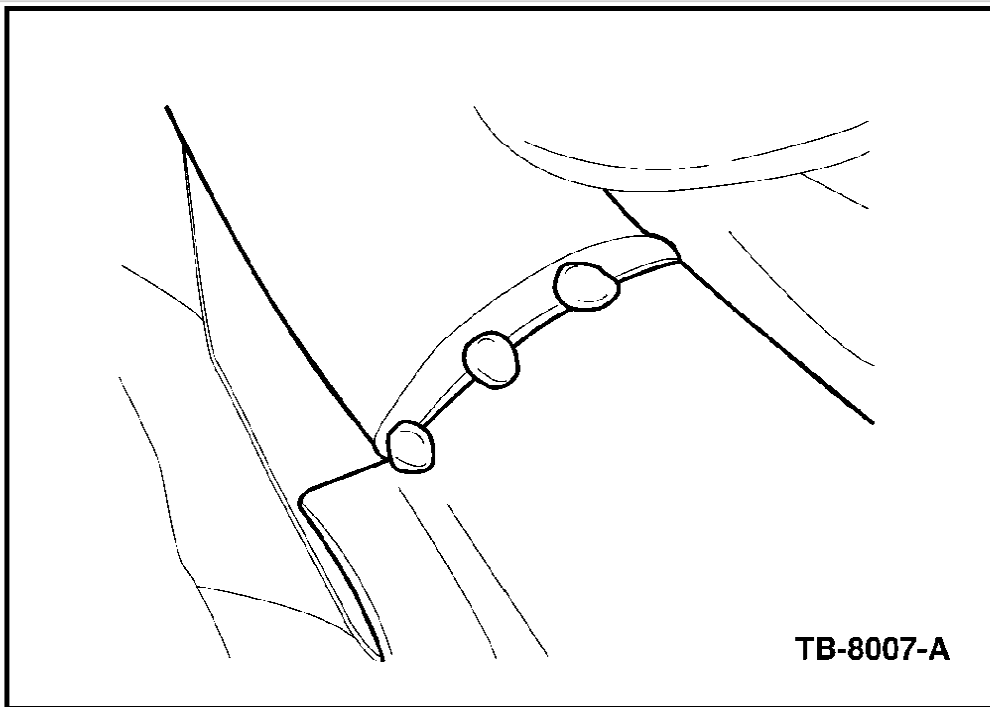

Figure 2
1. Tack weld the inlet pipe to the catalyst in three (3) places (Figure 2).